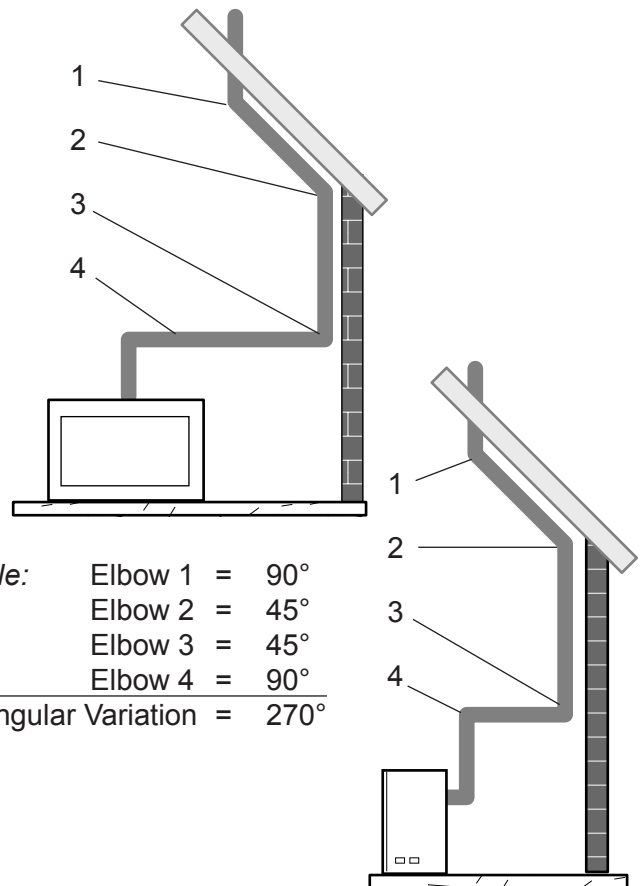

Figure 32 - Maximum elbow Usage
- Two sets of 45°elbows offsets may be used within the vertical sections. From 0 to a maximum of 8' (2.5 m) of vent pipe can be used between elbows. See Figure 32.
- The maximum angular variation allowed in the system is 270°. See Figure 32.